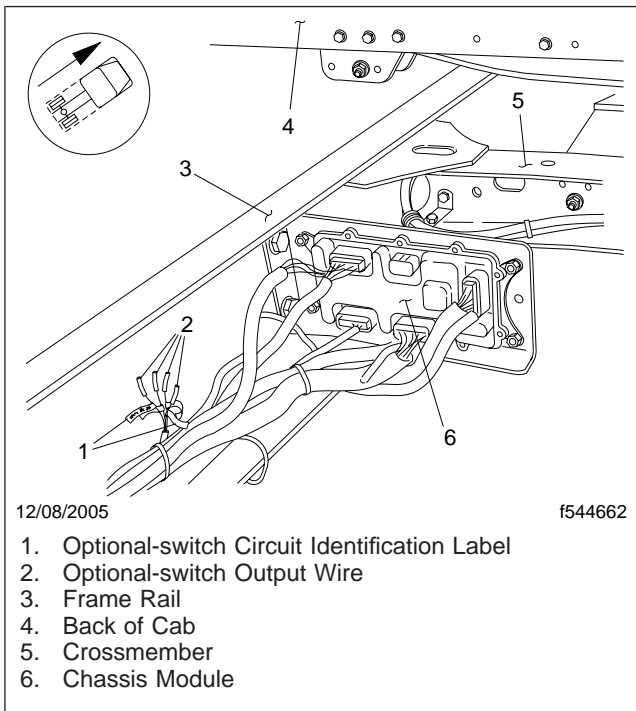

Fig. 2, Optional Switch Outputs
3. Locate the customer connection end of the optional-switch output circuit. The connection end of the output circuit is located on the chassis behind the cab. The circuit end is an exposed blunt-cut wire sealed with heat shrink. There will be a blunt-cut circuit for each optional switch. See Fig. 2.